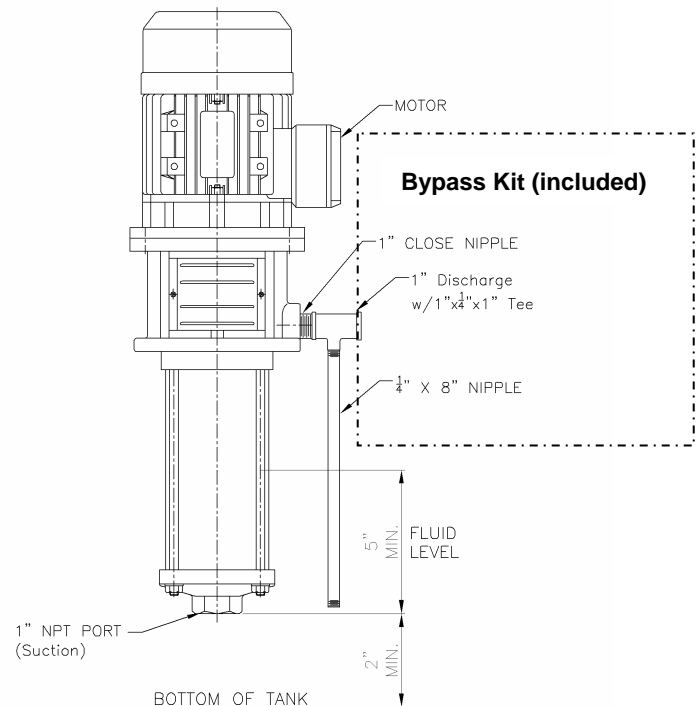

Figure 1
- Minimum and maximum liquid levels must be maintained for proper pump operation. *See Figure 1.*
- If operating at or below 8 gpm or where valves may be opened and closed periodically, you must use a bypass. This kit (Bypass Kit C-39695), See Figure 1, installs in the side of the discharge head and provides a fluid bypass when the pump is operated against a closed discharge thus preventing excessive heat build-up which will damage the pump.
- To ensure proper suction, fluid level should cover first two impellers (*5" from the suction end of the pump*). See Figure 1.